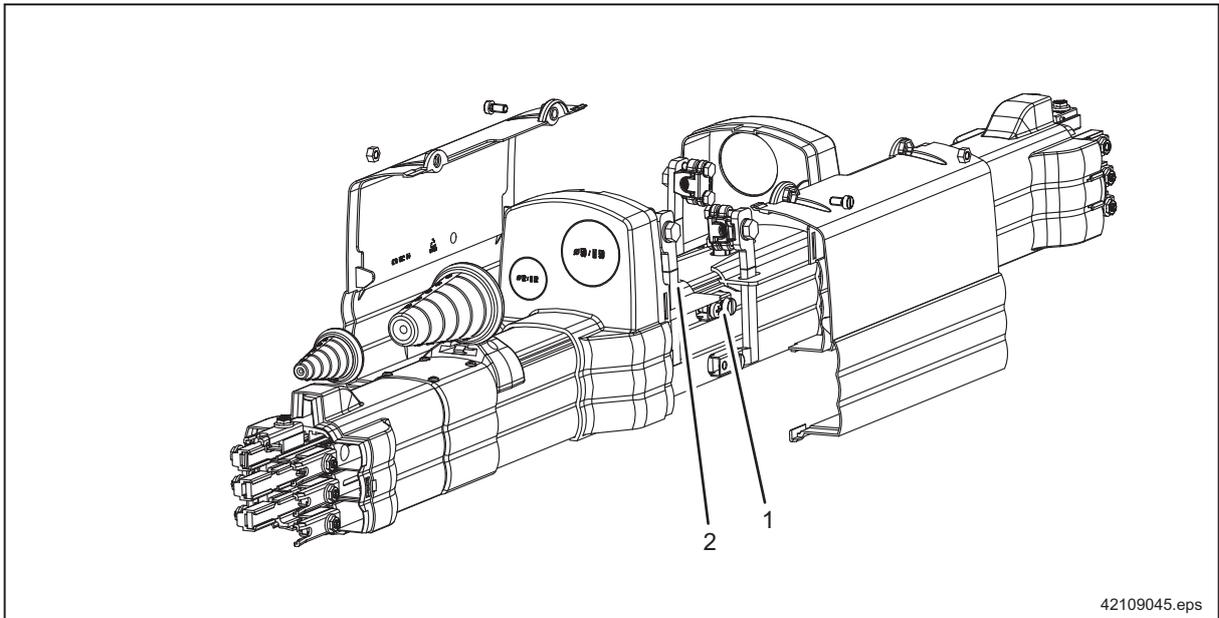

Fig. 31
With **connecting terminal (1)**, => Fig. 31, Page 34: